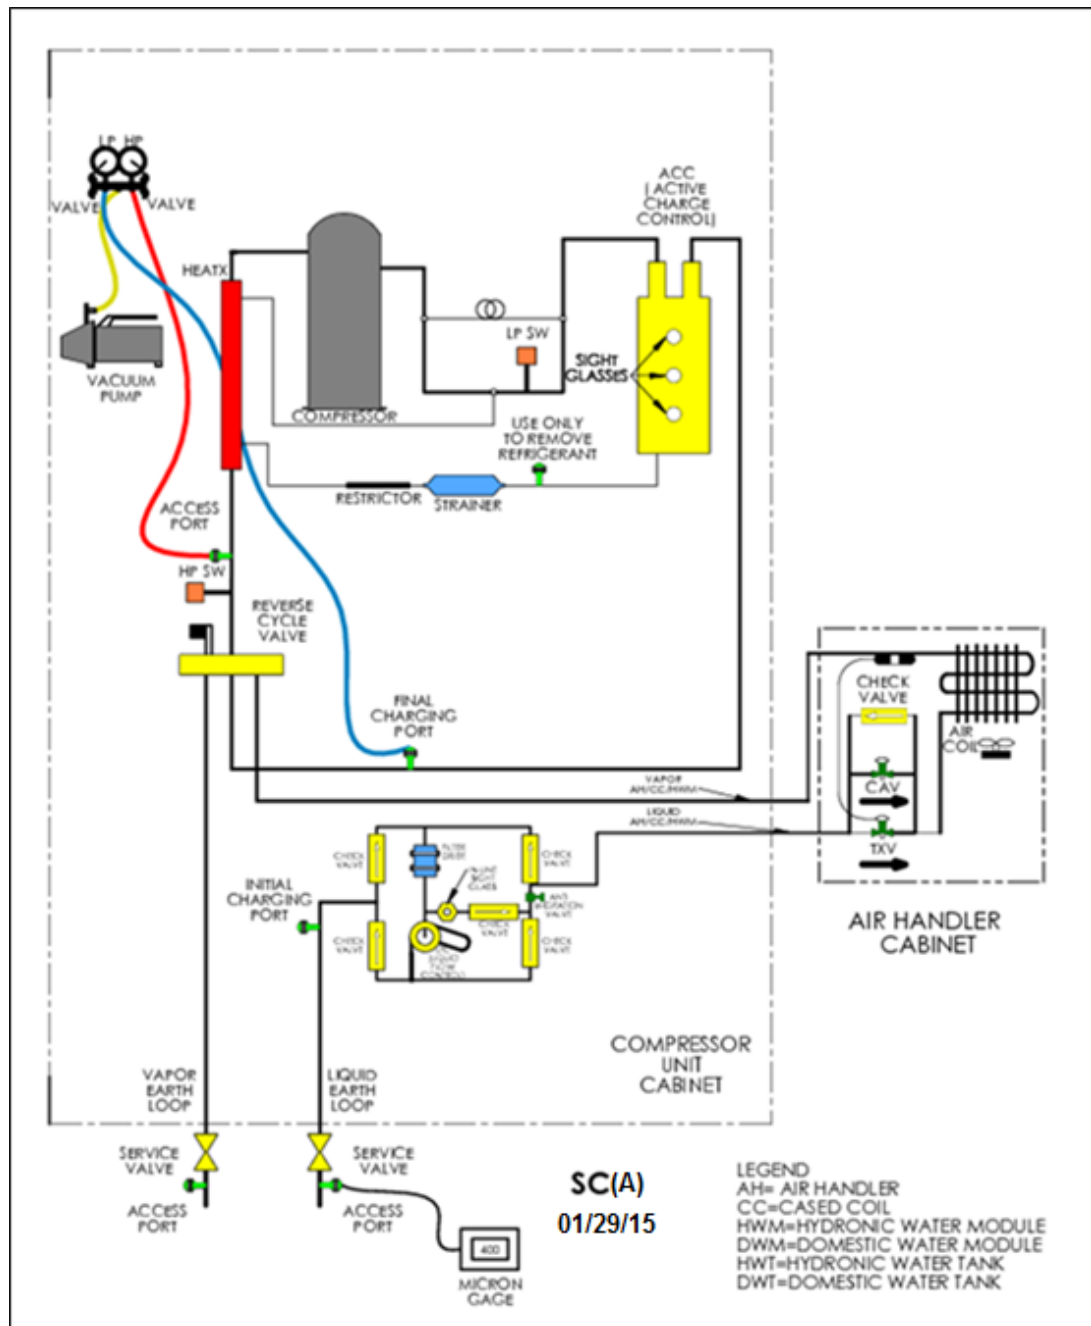

Figure 26. Evacuation of SC(A) System
Refer to Figure 26 and the following procedure:
2. After venting the pressurized system, connect the Gage Block and Hoses as shown in Figure 26. LP and HP valves are fully open. Both Service Valves are fully opened.
3. As illustrated in Figure 26, connect a good quality Digital Micron Gage to the Liquid Service Valve Access Port with an Isolation Hose/Valve. Connect a quality Vacuum Pump (at least 6 CFM capacity) to the Gage Block.